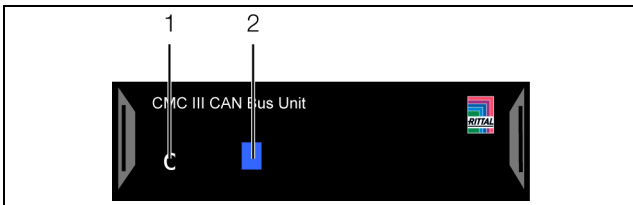
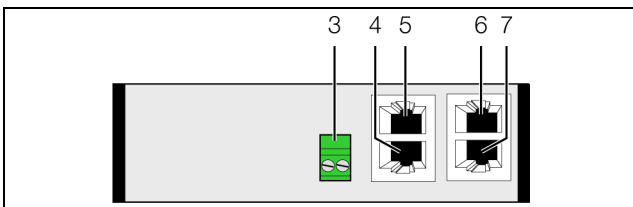

Fig. 11: Front of the CAN bus unit
Fig. 12: Rear of the CAN bus unit
A multi-LED for the status display is integrated into the front of the CAN bus unit (fig. 11, item 2). Additional LEDs are also located on the rear of the CAN bus connection (fig. 12, items 6 and 7) and on the connection for the components (fig. 12, items 4 and 5).